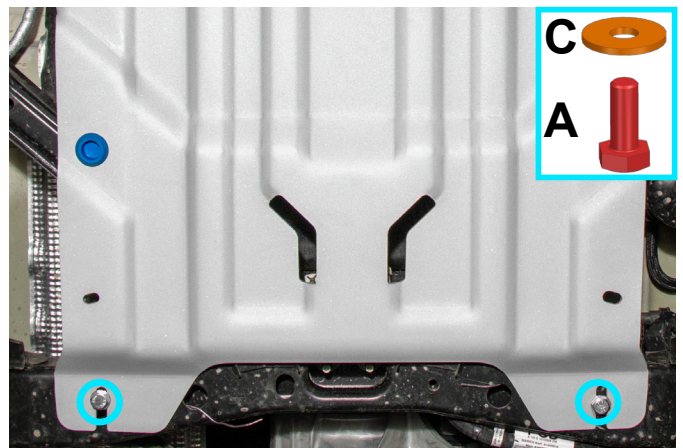

Fig. 4
4. Secure the rear of the transmission skid plate (item 1) to previously installed M10 insert nuts (item F) using M10x35 bolts (item A) and M10 washers (item C) as shown in fig.4.